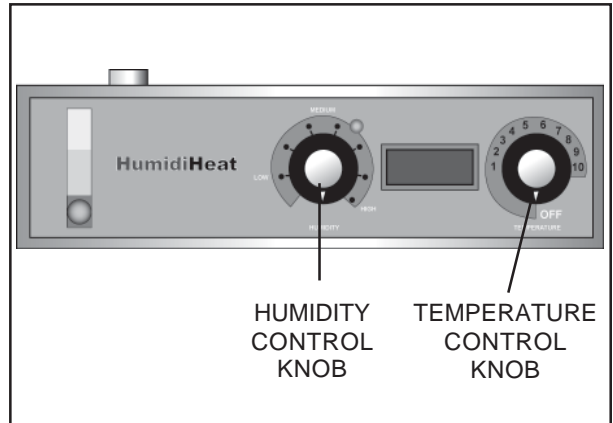

Figure 9: Shut Down
1. Turn temperature control knob and humidity control knob counterclockwise to OFF (Figure 9).